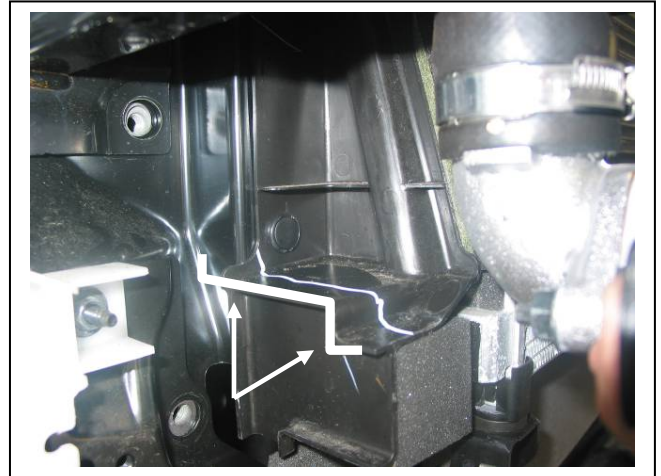

Figure 4 – Turbo diesel, driver's side shown
9. **TURBO DIESEL VEHICLES ONLY:** Using a sharp knife, on driver's side of vehicle, remove the lower section of plastic radiator air flow between the radiator support and rear of intercooler. **See figure 4.**